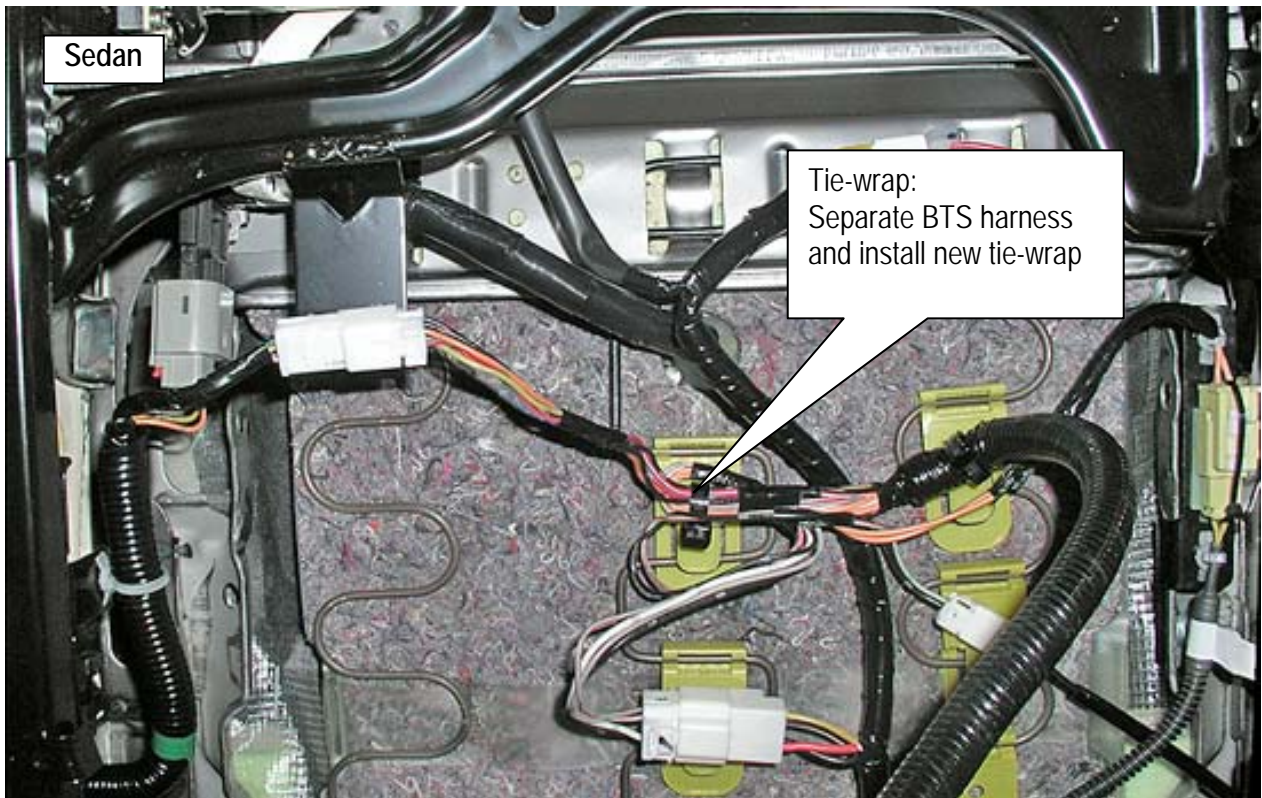

Figure 2
10. **For Sedan only:** Look under the seat, locate the tie-wrap shown in Figure 2 and separate the BTS harness from the tie-wrap as follows:
- a. Carefully cut / remove the tie-wrap shown in Figure 2.